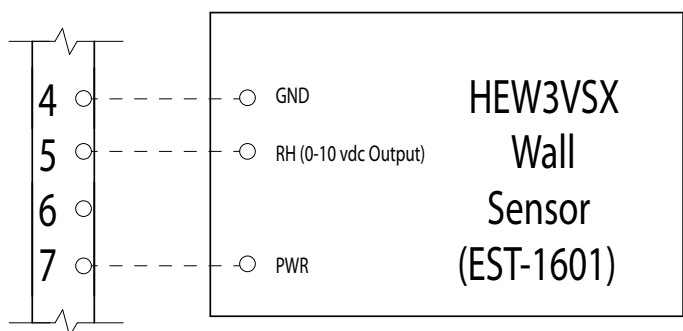

FIGURE 14A
2. Control Input - Unit will accept any sensor input that provides a VDC (See Fig. 14A, wall or Fig. 14B, duct) or mADC (See Fig. 15) signal within a range of 0-20 VDC or mADC that is proportional to the humidity level in the air. The sensor may be direct or indirect acting but must not have an impedance greater than 500 ohms, and should be linear. Example - A direct acting 2 - 10 VDC wall sensor will send a 2 VDC signal if the R.H. level in the space is 10%; it would send a 10 VDC signal if the R.H. level is 90%. The humidifier receives this input and compares it to the control setpoint that has been programmed into the unit. The microprocessor modulates the output capacity of steam. The adjustable integration period will review performance over the given time and will make tuning adjustments by shifting the proportional bandwidth to correct for over or under humidification offsets automatically.